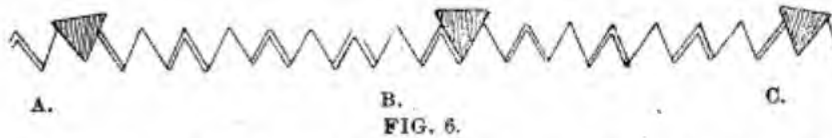

FIG. 6.
*Second.* Notice the pitch of the tooth as at B Fig. 6. Be very careful as you proceed that the file does not turn in your hand or handle and change the pitch as at B in Fig. 6.
*The pitch of the teeth* is an important feature. Too much pitch is a common fault. It is well to have a little, but too much pitch will make a saw cut rough and push hard. Fig. 6 *B* shows a saw with no pitch at all, and the bevel the same on each side of the tooth. The file is held level in filing teeth in this shape which is used largely in cutting soft wood—principally in the buck saw.